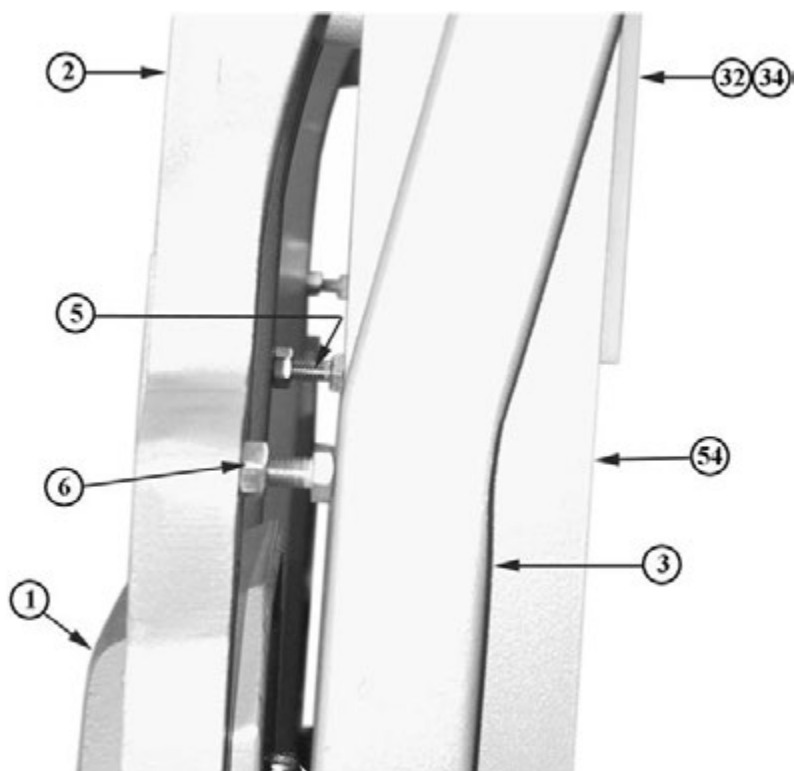

FIGURE 2
2. Adjustment Stop (see Figure 2, page 11)
a. Check bolt (5) and locking nut (6) to see if they are tight. If loose, proceed as follows:
2. Adjustment stop (Figure 2, page 11)
2. Adjustment stop (items 5 & 6, page 14 and 15) - If nut or bolt are loose, refer to adjustment directions (VI. D. 2., page 10 and Figure 2, page 11).